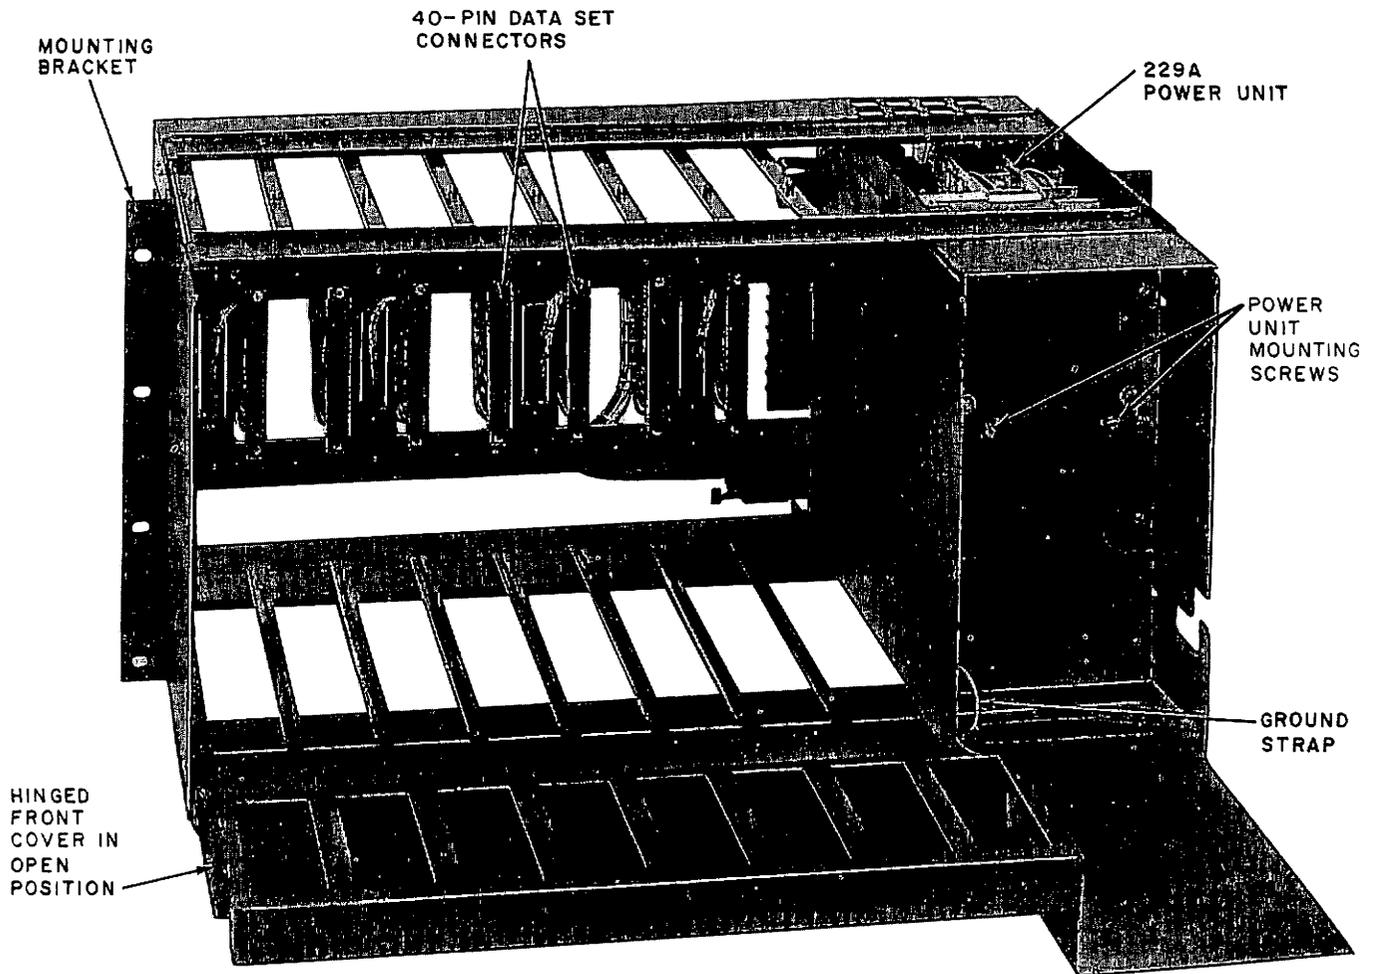

Fig. 2—57B1 Data Mounting With Front Cover Opened
1.04 The 57B1 data mounting (Fig. 2) is identical to the 57A1 data mounting, except that it does not contain the data units and test cable provided with the 57A1 data mounting.